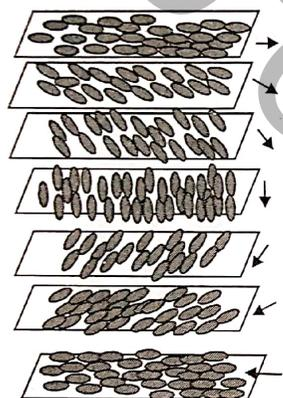

Fig. 1.19.4. Schematic diagram of a chiral nematic liquid.
- This phase shows nematic ordering but the preferred direction rotates throughout the samples. An example of this is shown in Fig. 1.19.4.